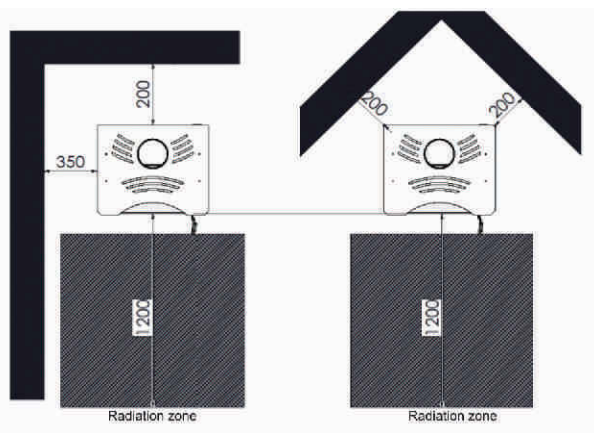

Figure 3
- Figure 3 shows the stove radiation zones and the minimum distances from flammable objects.